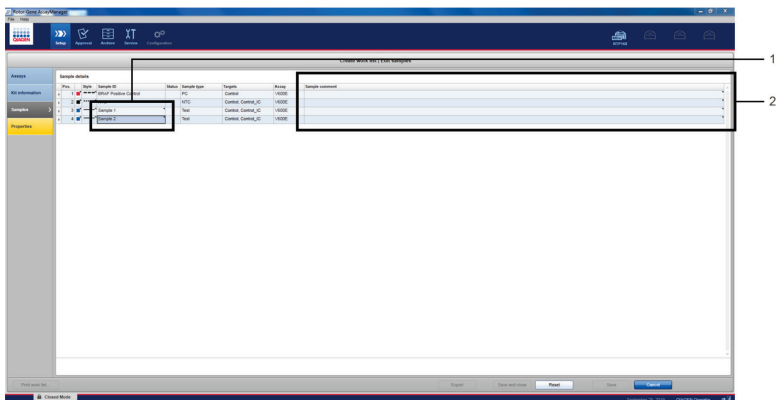

Figure 8. “Create work list” window on the “Samples” tab. 1 = Enter sample names. 2 = Enter sample comments.
8. Click the “Samples” tab. Enter the sample names into the “Sample ID” column. Enter any comments into the “Comments” column (Figure 8).